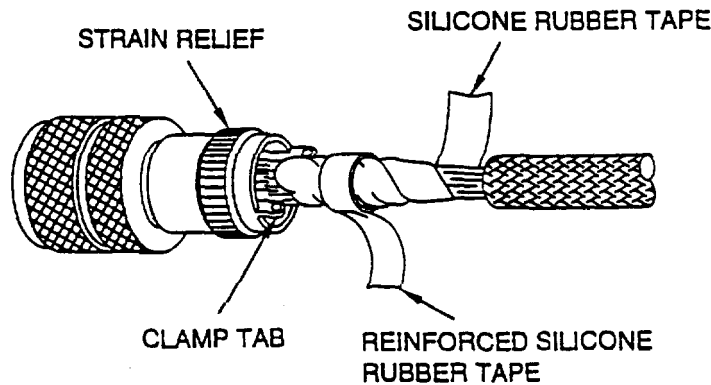

Figure 50. Accessory Tape Removal
d. Cut and unwrap tapes (Figure 50).